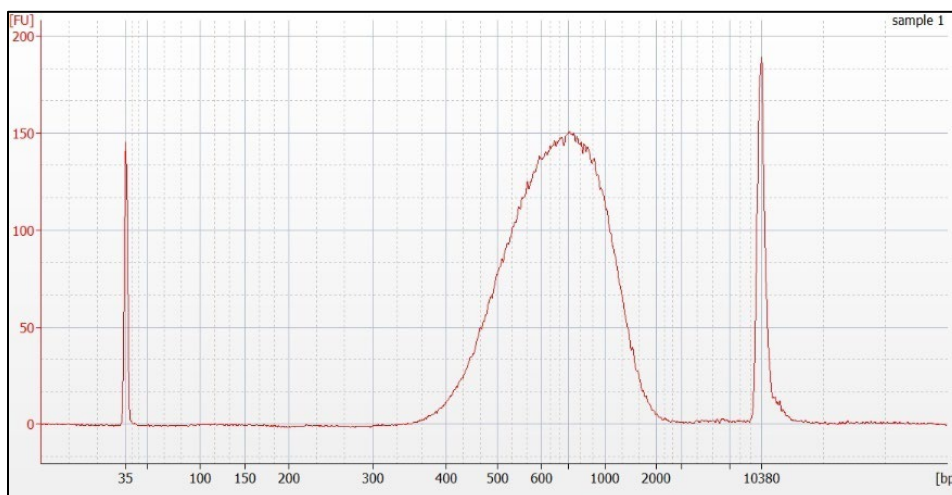

Figure 22. Example electropherogram results using the Agilent 2100 Bioanalyzer high sensitivity assay.
4. Use the Bioanalyzer results to determine library quality and average size for qPCR quantification. See Figure 22 for an example of a typical Bioanalyzer profile for a library generated by this protocol.
A typical library curve should contain one single peak as shown in Figure 22. Final library size may vary depending on cell types, cell number, and other factors.